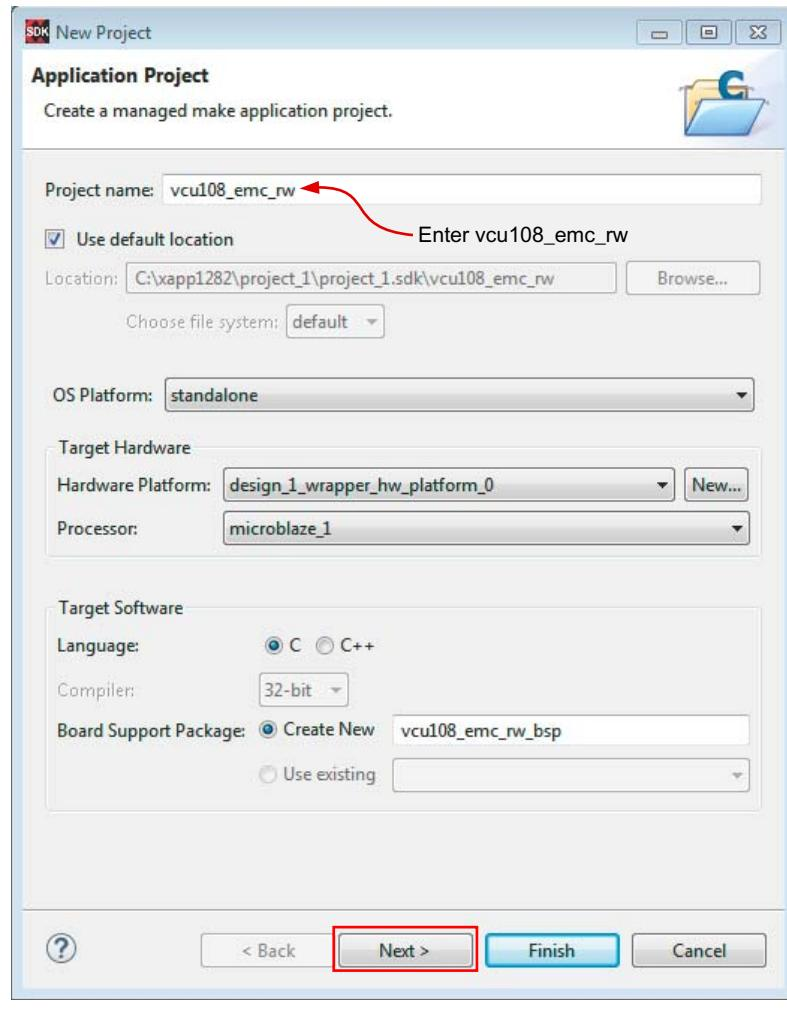

Figure 7: Create Application Project
- c. Select, enter, or verify the values in the remaining fields shown in **Figure 7**.